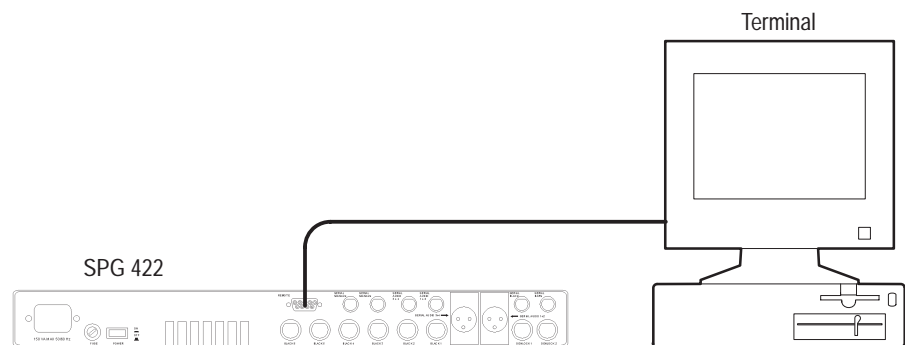

Figure 3–9: How to connect the terminal
3. Attach the cable to the Terminal RS-232 port and to the SPG 422 Remote input, as shown in Figure 3–9.